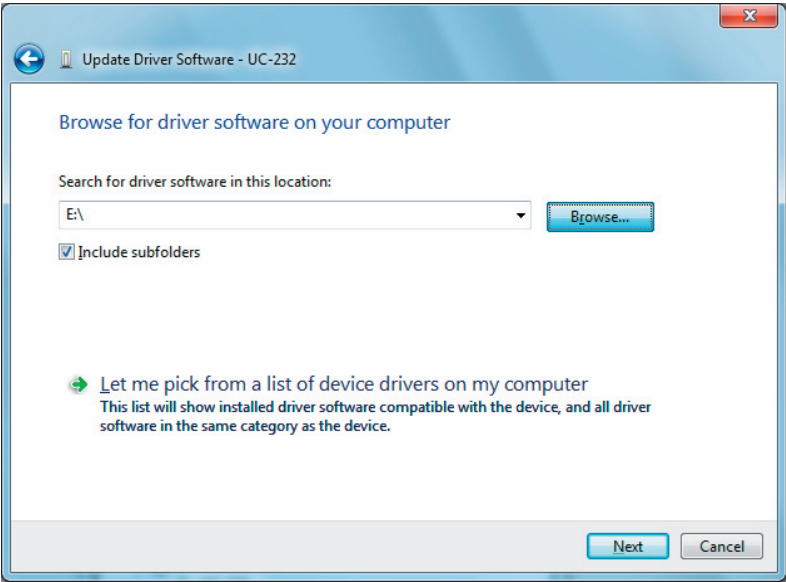

Fig. 13. Update Driver Software Procedure.
- 6) In the address box put the exact location where the drivers have been saved to, or select “Browse” for choosing the location (see Figure 13). This may be on a CD or in a folder on the PC. It is not necessarily the exact same location as shown in the screenshot. After entering the address select “Next” to start the installation. After the window “Would you like to install this device software” appears, select “Install” (as can be seen in Figure 14).